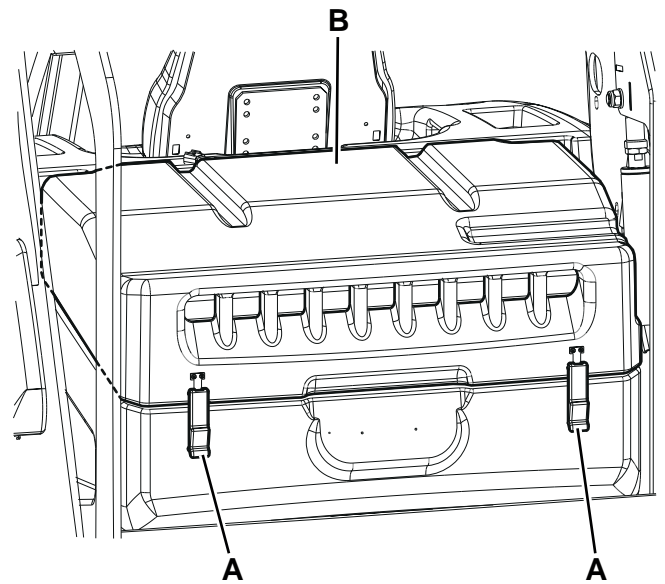

Figure 16
1. Drive the machine on a level ground, engage the parking brake and turn the ignition key (51) to "0".
2. Open the engine compartment hood (19) and check that it is fastened with the support rod (47).
3. Release the fasteners (A, Fig. 16) and open the vacuum separator (B).
7. Press the lever (E) to disengage and close the cover (B, Fig. 16).
8. Engage the fasteners (A).